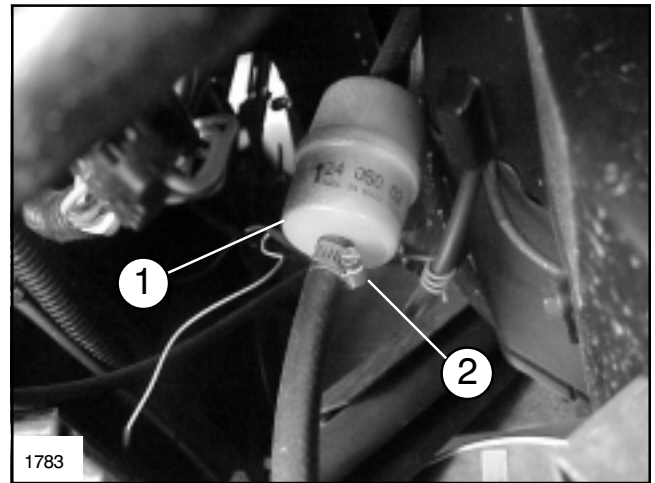

FIG. 21
2. Remove the inlet and outlet hose clamps (See FIG. 21).